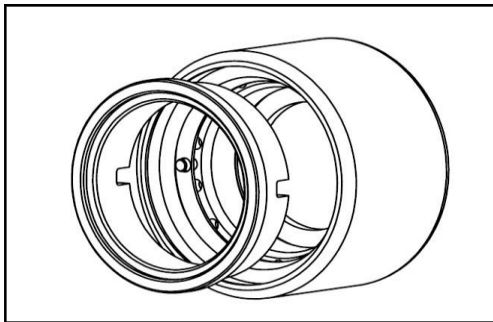

Figure 14
5. Slide the rotating seal into the seal driver making sure to align the pins inside the driver with the slots on the seal, Figure 14. Push the rotating seal halfway into the seal driver a few times watching the pins fit into the slots of the rotating seal while compressing the seal driver springs.